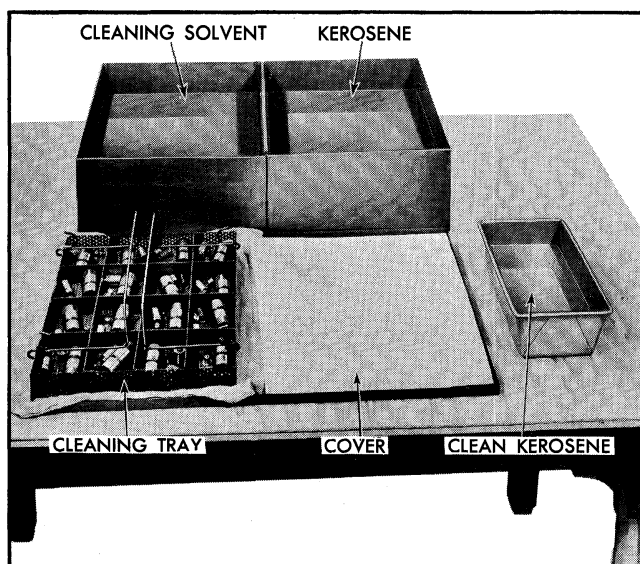

Fig. 6-98 Lifter Wash Tank and Tray J-5821
Wash tank and tray J-5821 (Fig. 6-98) is recommended for cleaning valve lifters. This tank should be used only for valve lifters and should be kept covered when not in use. All servicing should be done in an area removed from grinders or other sources of dust and foreign material.
3. Drain oil out of lifter body and place all valve lifter parts in separate compartment of tray from wash tank J-5821 (Fig. 6-98).
5. Wipe out tank cover and place tray of parts on cover in front of tank (Fig. 6-98). A shop towel under tray and clean paper on remainder of cover will enhance cleanliness.